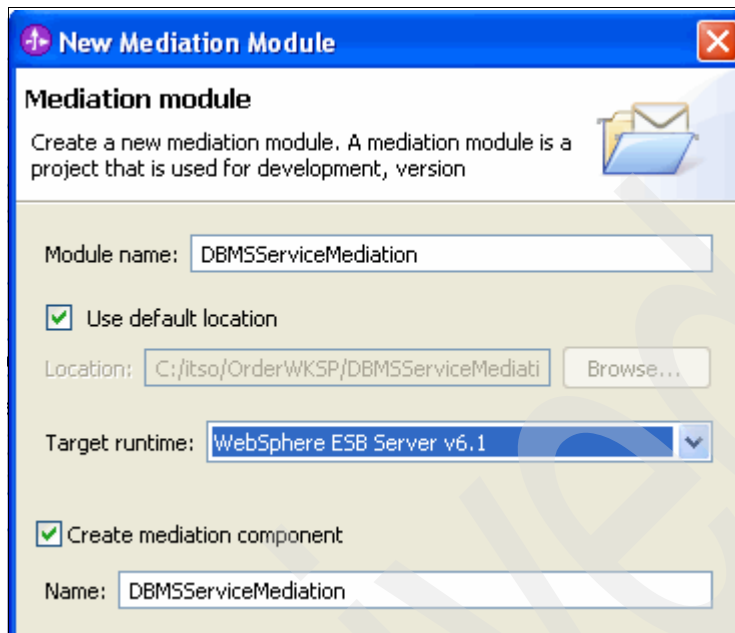

Figure 5-15 New mediation module properties
19. On the New Mediation Module panel (shown in Figure 5-15 on page 313):